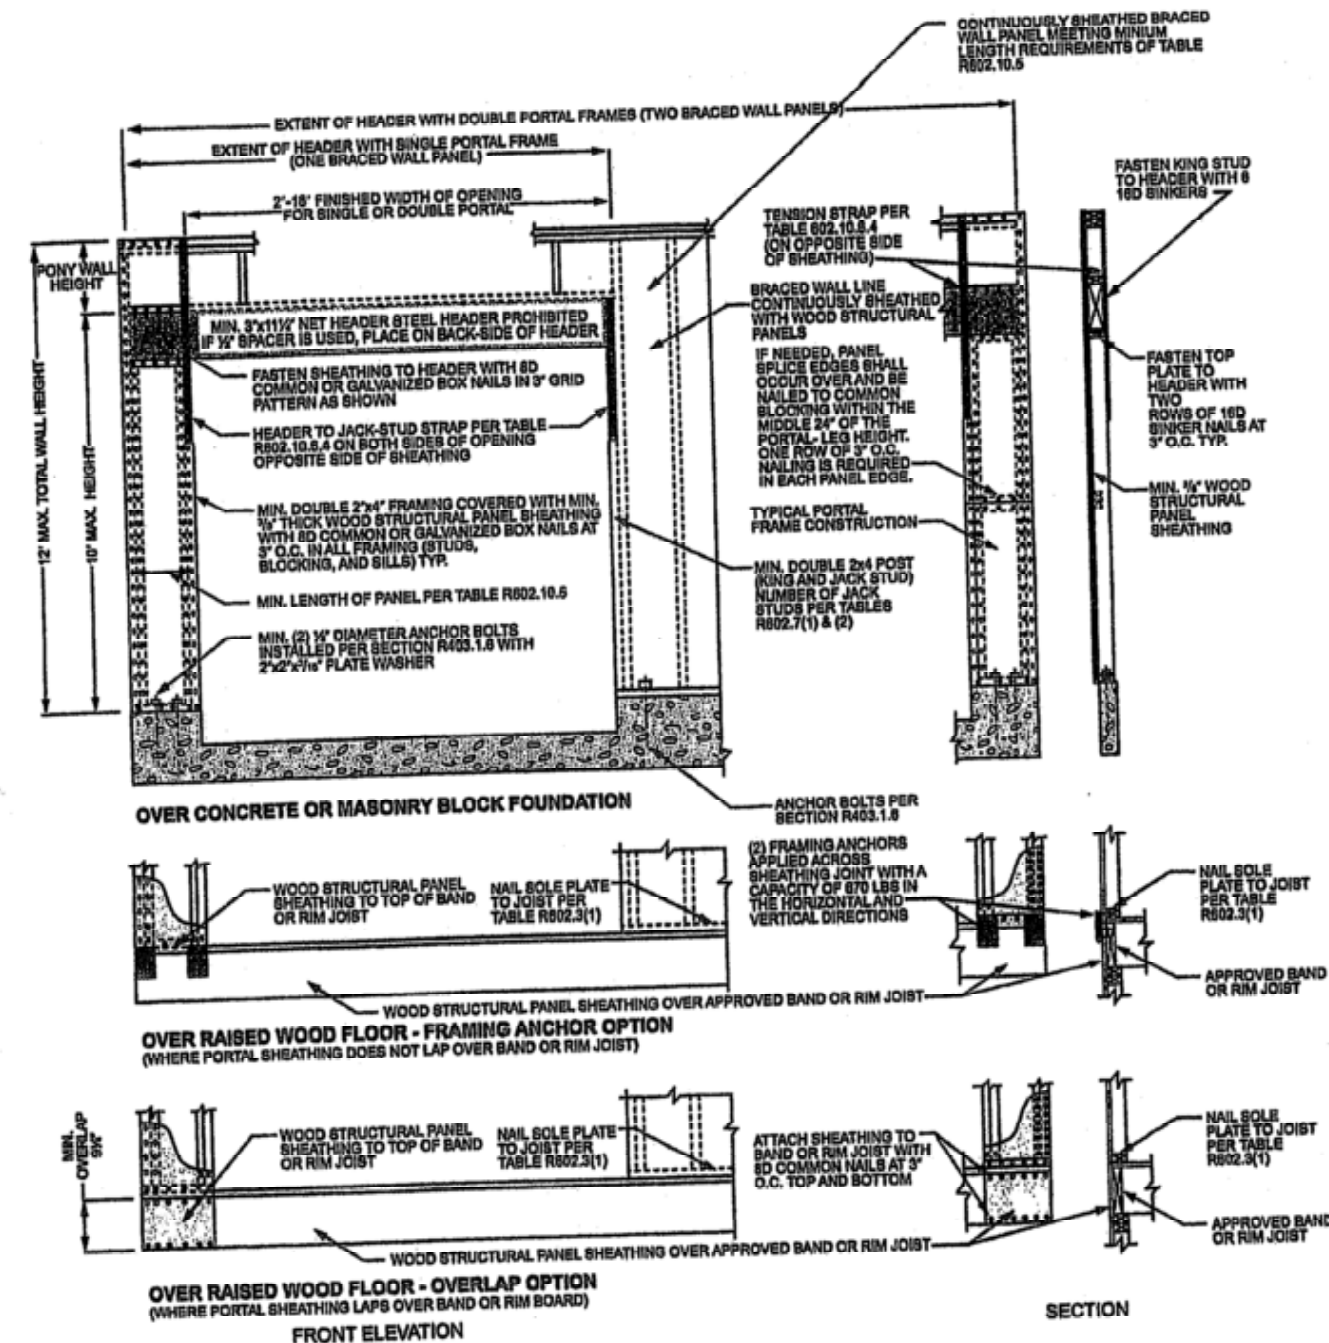

FIGURE R602.10.6.4
c. Maximum header height for PFH is 10 feet in accordance with Figure R602.10.6.2, but wall height shall be permitted to be increased to 12 feet with pony wall.
d. Maximum header height for PFB is 10 feet in accordance with Figure R602.10.6.3, but wall height shall be permitted to be increased to 12 feet with pony wall.
e. Maximum header height for CS-PF is 10 feet in accordance with Figure R602.10.6.4, but wall height shall be permitted to be increased to 12 feet with pony wall.